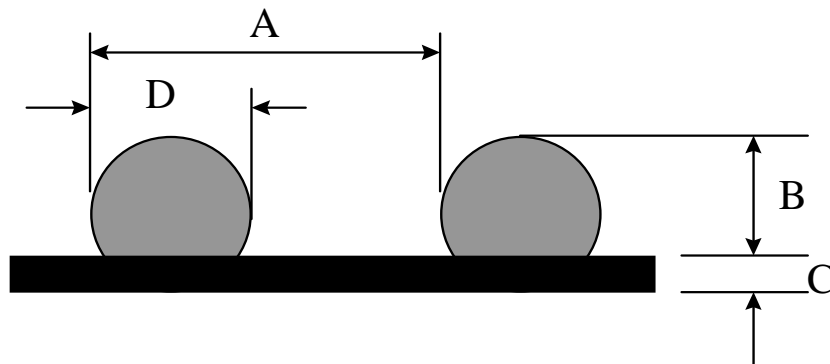

Figure 5. *UltraCSP*, *Spheron WLP*, and *EliteCSP* Package Dimensions
As shown in Figure 5, the critical package dimensions of FlipChip Wafer Level Packages (*UltraCSP*, *Spheron*, and *EliteCSP*) include pitch (A), bump height (B), bump diameter (D), die thickness (C), and overall package thickness (B+C).